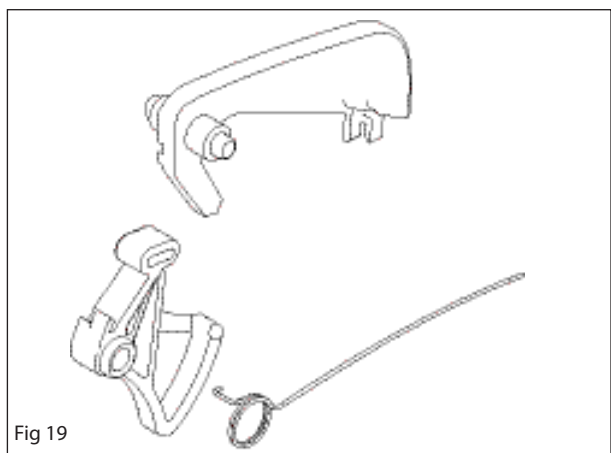

Fig 19
- Carefully clean and check all parts. See figure 19. Parts must be replaced if cracked or show signs of other defects. Always use original spare parts.